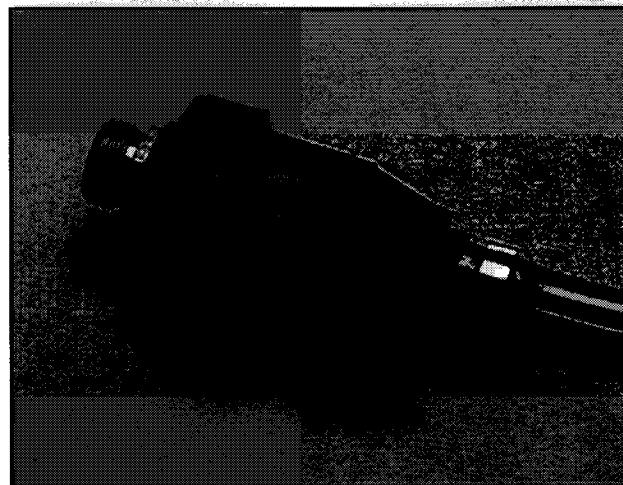

FIG.7-Drain Valve Open
- Insert the **drain hose** in the sink, toilet or other disposal and make sure you **OPEN THE DRAIN VALVE** located near the end of the drain hose. The adapter tray can be used to secure drain hose in sink. **Figure 7** shows the drain valve in the open position.